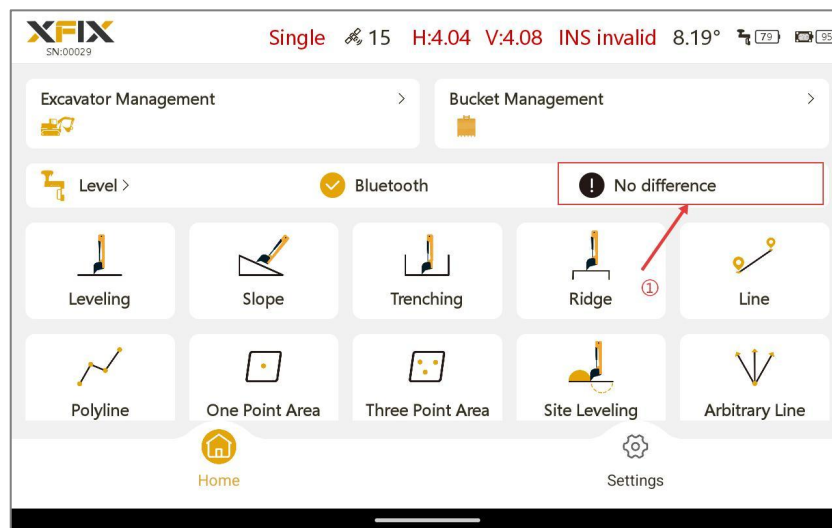

Figure 3-4
- (1) Using the EX30B base station to provide differential data: For detailed operation steps, see section 2.2 Base Station Configuration.
- (2) Using a third-party differential forwarding platform:
- ① After connecting to the leveling instrument via Bluetooth, tap the leveling instrument differential configuration 'No Difference' on the 'Home' screen, as shown in Figure 3-4.